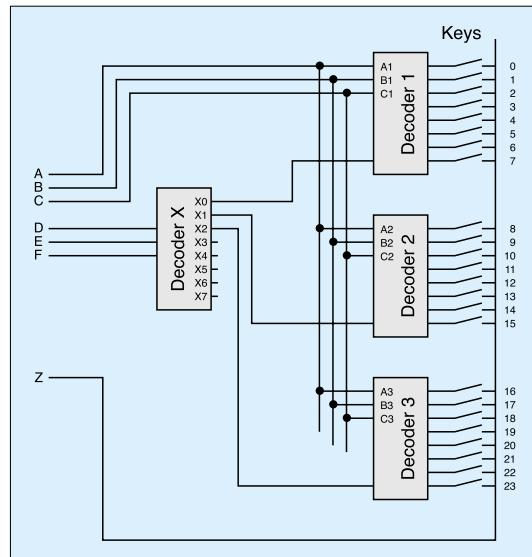

Figure 7: A simple 6-bit polyphonic keyboard decoder.
The answer lies in Figure 7 (see right), which represents the 'digitally scanned polyphonic keyboard' developed in 1973 by Dave Rossum and Scott Wedge of Ep (later renamed Emu) Systems.
If you've never studied digital electronics, you might think that you can't possibly understand this diagram, but I assure you that you can. Stick with me for a while longer, and I'll demonstrate how the 24 switches on the far right of Figure 7 can be used as the key contacts of a polyphonic synthesizer. Furthermore, I will perform magic, and show you that the single data line Z can carry all the information needed to tell the instrument which combination of keys is pressed at any given time.
Now let's return to Figure 7. We'll start by considering what happens in Decoder X if you treat the three inputs D, E and F as a binary number. Let's assume that, if the voltage at the input is 'high' (+5V) it represents a 1 and if it is 'low' (0V) it represents a 0. Since there are three lines, we can use them to represent a 3-bit binary number. Table 2 below shows all the possible values.
► 001001. This means that Decoder X enables Decoder 2, and that key 9 is 'high'. The important thing here is that, across the whole keyboard (yes... those switches in Figure 7 represent real keys on a synth keyboard) only key 9 is 'high'. But if you *don't* have key 9 depressed at that moment, the switch is open, and the voltage on the Z line (the output) remains 'low'. If, on the other hand, the key is depressed, the voltage on Z is 'high', and the system detects the status of the pressed key.